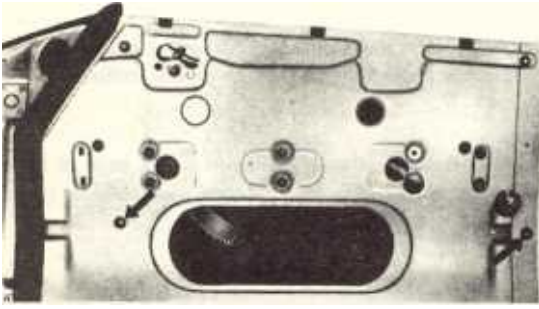

Fig. 31
6. Pane should incline towards car inside, in order to ensure a tight fit at the sealing rubber. Inclination can be adjusted at the lower securing bolts of the window guides (see fig. 31).